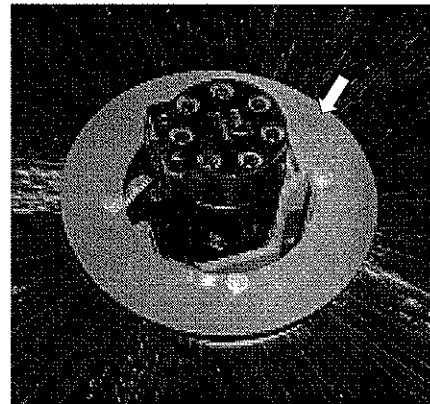

figure 30
5. Remove 4 cap screws and the retainer (figure 30) from the end that the hub and/or motor needs replacing.